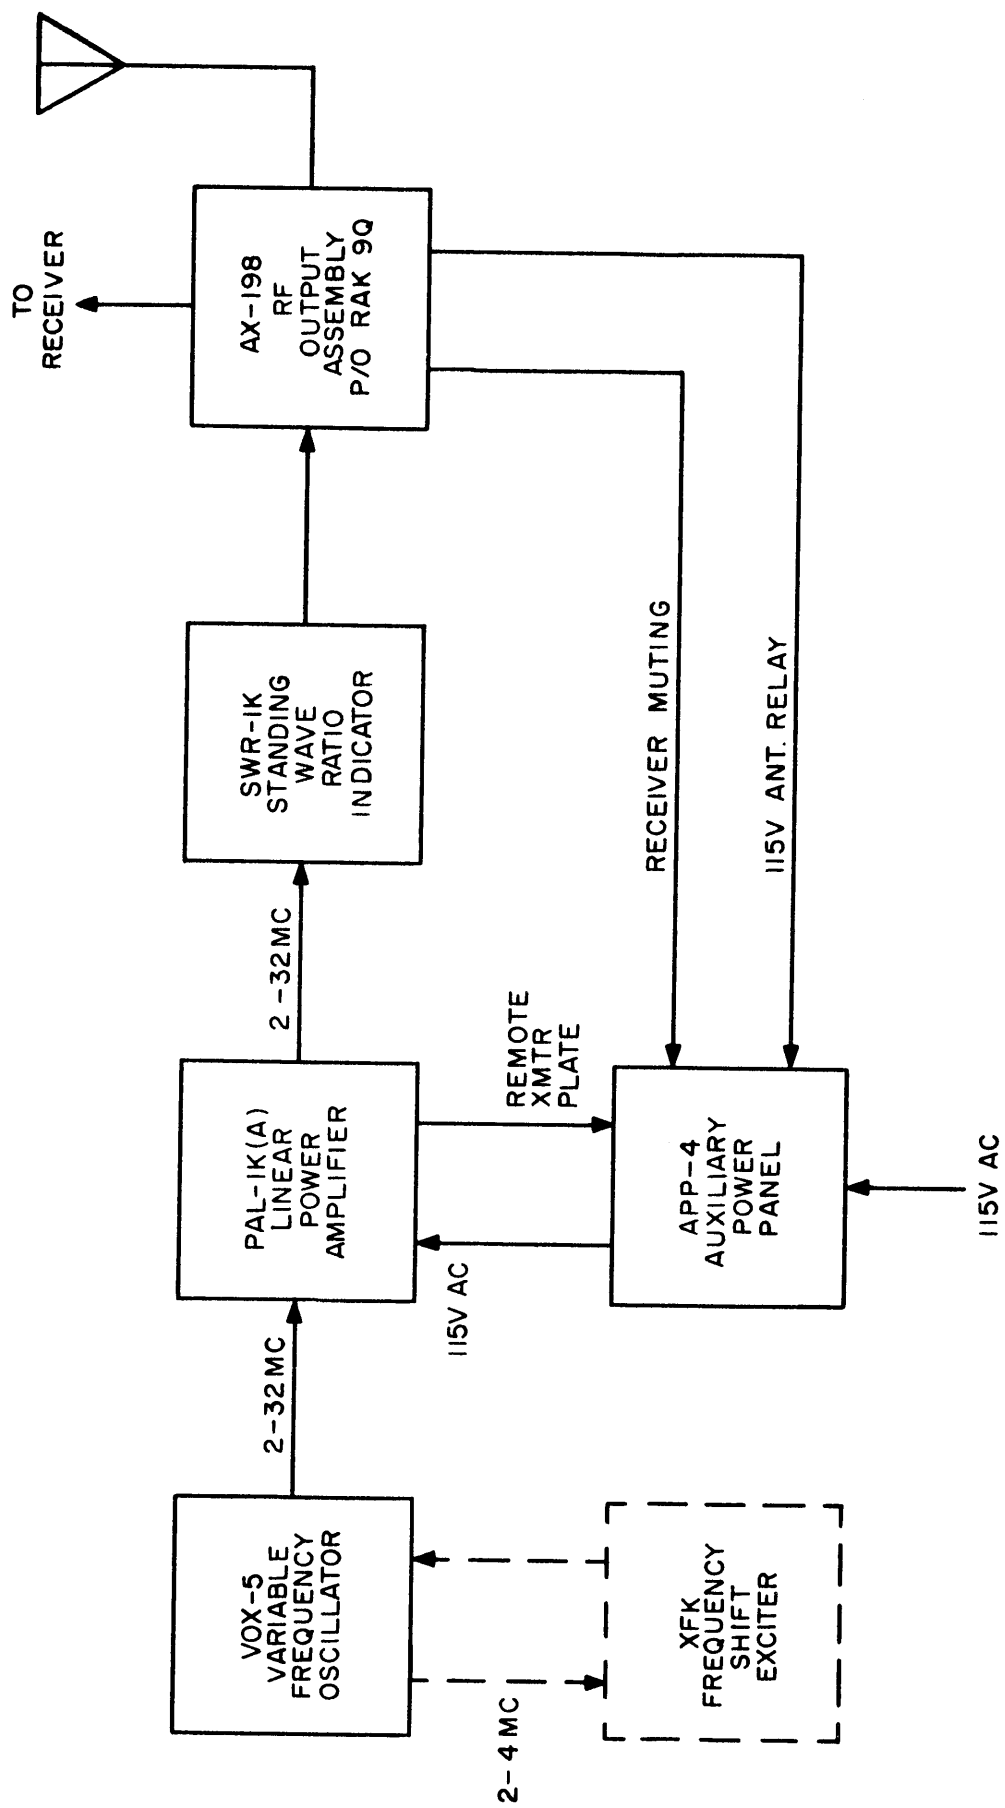

Figure I-4-1. Functional Block Diagram, SBT-1K(Q)
Figure I-4-1 is a functional block diagram of the SBT-1K(Q) transmitter, showing the main interrelationships of the AX-198, SWR-1K, PAL-1K(A) and VOX-5. Also shown but not part of the SBT-1K(Q) is an XFK frequency shift exciter. The XFK is included to illustrate the relationship of an external exciter when it is used with the SBT-1K(Q). For a complete functional block diagram and schematic diagram of each unit, except the AX-198 which is part of the rack, refer to the individual manual for the unit. Schematic diagrams for AX-198 RF Output Chassis, APP-4 Auxiliary Power Panel and RAK-9 rack wiring are shown in Part V.
a. GENERAL - As shown in figure I-4-1, the VOX-5 furnishes a continuously adjustable 2-4 mc as an injection frequency for an external exciter (such as the XFK), thereby providing continuous adjustment for SBT-1K(Q)'s 2-32 mc output. Although VOX-5 is capable of delivering 2-64 mc, only the output of its 2-4 mc master oscillator is used in the SBT-1K(Q). The output of VOX-5 is amplified up to 1 kilowatt by PAL-1K(A). The SWR-1K serves to monitor the VSWR (Voltage Standing Wave Ratio) on the antenna, in order to aid tuning adjustments to match SBT-1K(Q) to antenna. The AX-198 provides for switching of the antenna from the SBT-1K(Q) to an associated receiver to provide a T/R (transmitter/receiver) function allowing utilization of a single antenna for transmitting and receiving.